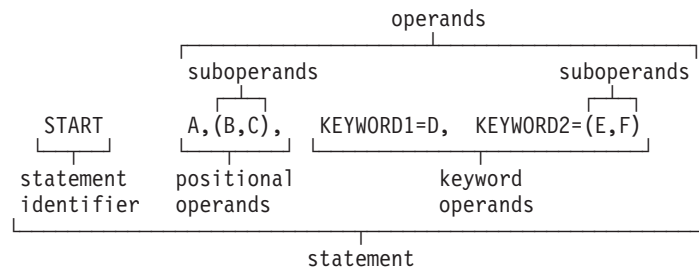
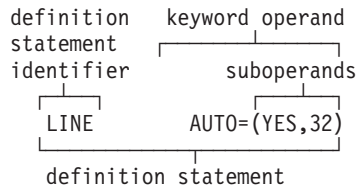
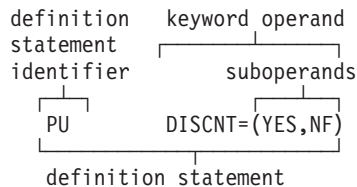

Figure 7. Example of a Language Statement
Figure 8. Example of an NCP Definition Statement
Figure 9. Example of a VTAM Definition Statement
**DCE.** (1) Data circuit-terminating equipment. (2) Distributed Computing Environment.
**default.** Pertaining to an attribute, condition, value, or option that is assumed when none is explicitly specified. (I)
**definite response (DR).** In SNA, a protocol requested in the form-of-response-requested field of the request header that directs the receiver of the request to return a response unconditionally, whether positive or negative, to that request chain. Contrast with *exception response* and *no response*.
**definition statement.** (1) In VTAM, the statement that describes an element of the network. (2) In NCP, a type of instruction that defines a resource to the NCP. (3) See also *macroinstruction*. (4) See Figure 7, Figure 8 on page 288, and Figure 9 on page 288.